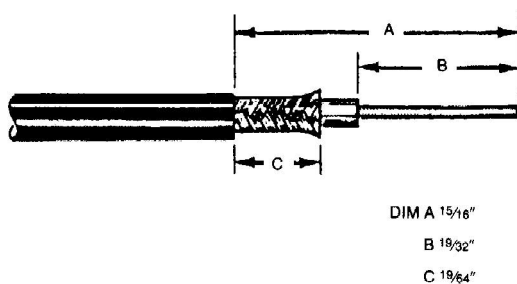

Figure 14.
2. Prepare cable to strip dimensions per Figure 14, which is also marked on the hand tool.